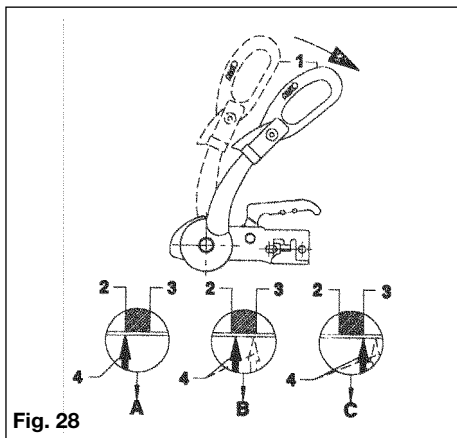

Fig. 28
2. Open Stabiliser lever (Fig. 28/Item1).
4. If the arrow on the arm (Fig. 28/Item 4) is before or on the marked area (Fig. 28/Item 2) the friction pads are still as new (See A)